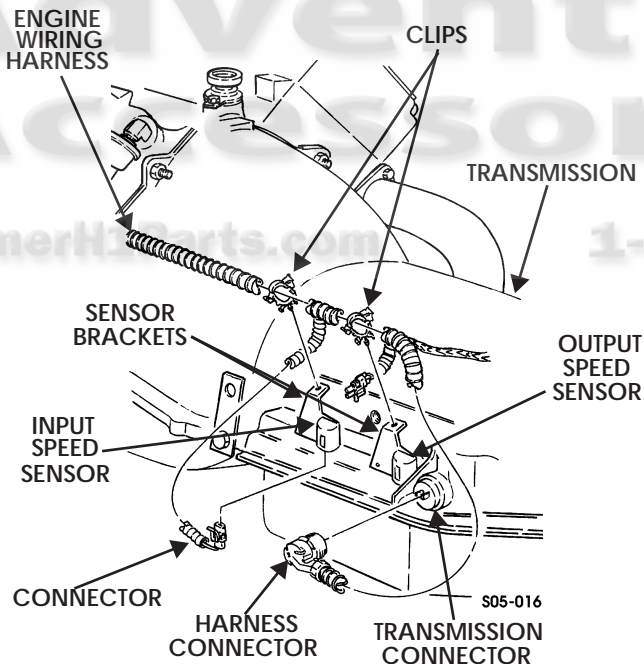

Figure 5-67: Engine Wiring Harness Connectors
11. Connect, as tagged, input speed sensor and output speed sensor connectors from engine wiring harness to sensors on transmission (Figure 5-67).